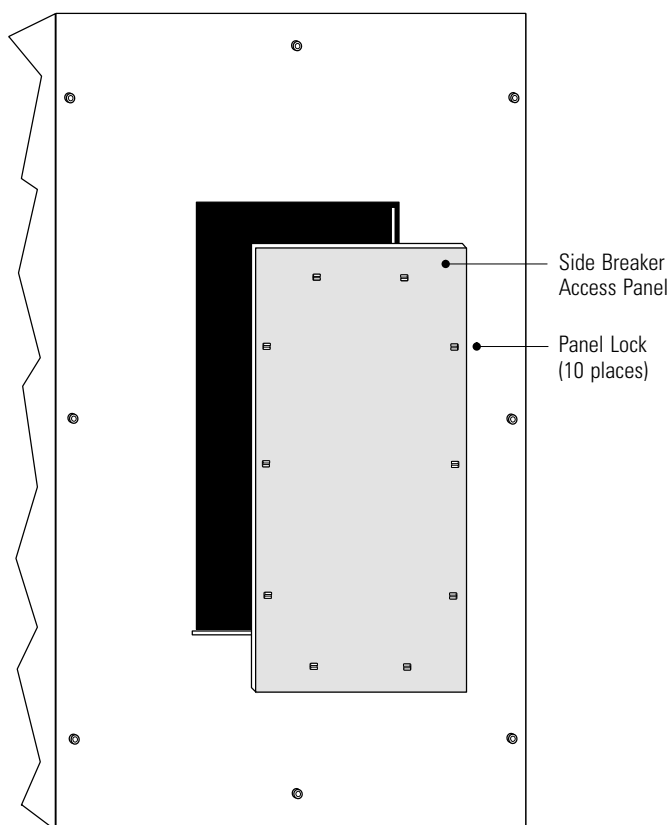

Figure 4. Removing the Side Breaker Access Panel
2. Slide a panel key into each horizontal panel lock on the side breaker access panel until the key is firmly in place. See Figure 4.